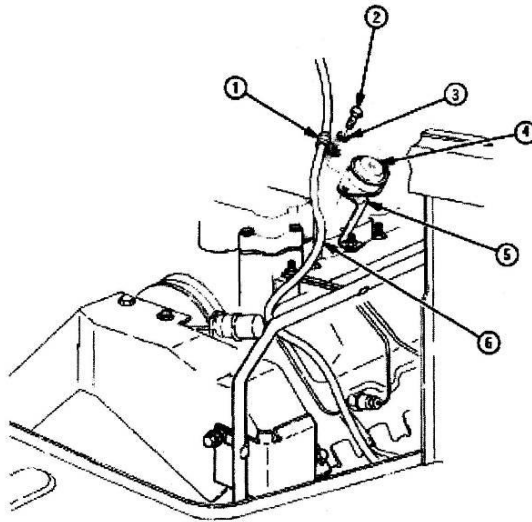

Figure 54
(18) Remove screw (2) and washer (3) from CDR valve (4) and bracket (5) as shown in **Figure 54**. Retain all parts.
(19) Install MS21333-127 clamp (1) on cable (6) and secure on CDR valve (4) and bracket (5) with existing screw (2) and washer (3) as shown in **Figure 54**.